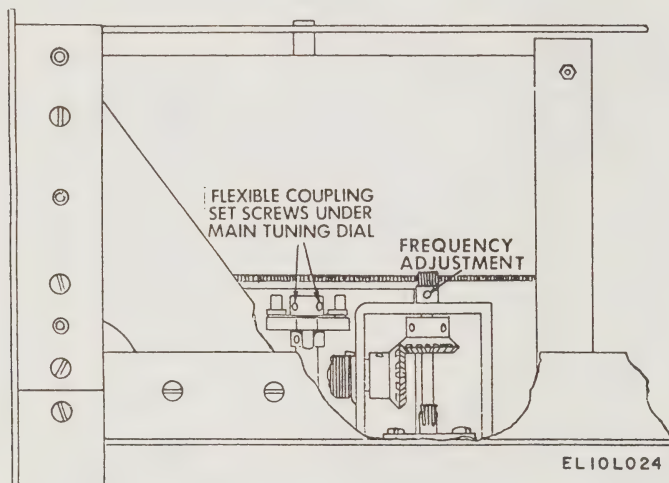

Figure 7-16. Tuning dial adjustment.
b. Gently rotate main tuning drum through its travel. Drum should rotate approximately 1 inch past end of calibrate scale on each end. If not, reset flexible coupling setscrews (fig. 7-16).